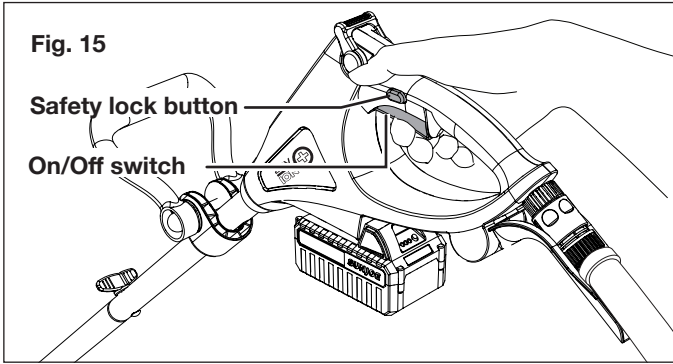

Fig. 15
4. Make sure the water flow regulation valve is set to the minimum flow position (front), press the safety lock button, and squeeze the On/Off switch. When the appliance is running, release the safety lock button (Fig. 15).